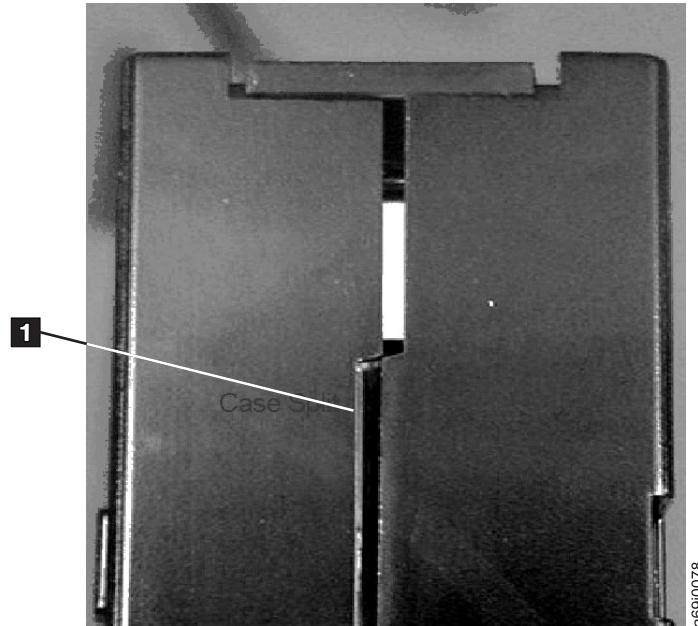

Figure 119. Checking for gaps in the seams of a cartridge
- ___ Step 3. Inspect the rear of the cartridge (the part that you load first into the tape load compartment) and ensure that there are no gaps in the seam of the cartridge case (see **1** in Figure 119). If there are gaps in the seam, the leader pin may be dislodged. Go to “Repositioning or Reattaching a Leader Pin” on page 152.